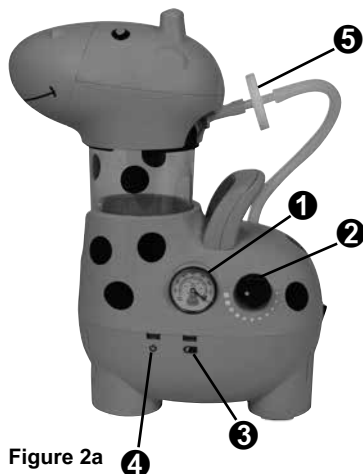
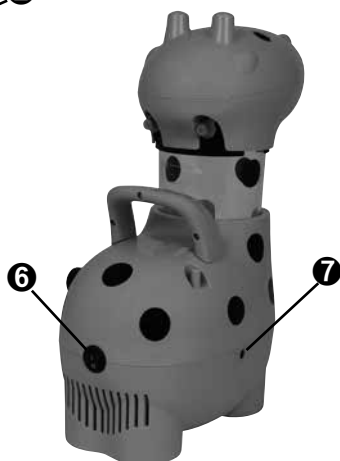
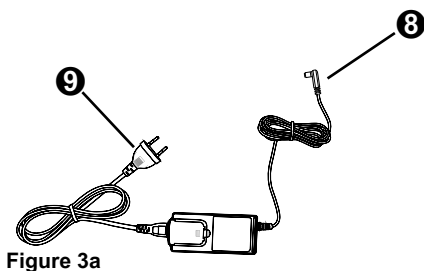
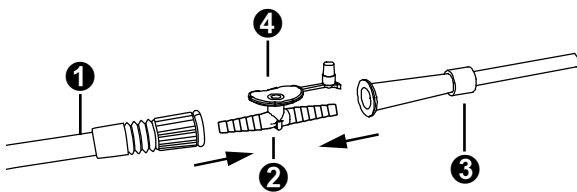

Figure 2a
Figure 2b
Figure 3a
Figure 5
- Switch the device on with the aid of the ON/OFF button (Figure 2b, ❻). If the operating status indicator (Figure 2a, ❹) lights up in green, the device is ready for operation. If the operating status indicator (Figure 2a, ❹) lights up in yellow, the rechargeable battery must be charged. (see Section 3.4).
The battery is charged via the 12 V low-voltage connection of the device. While charging is in progress, the battery capacity status indicator (Figure 2a, ❸) flashes green. As soon as the battery has been fully charged, the battery capacity status indicator (Figure 2a, ❸) lights in green. The device can be charged or operated with either the power supply (Figure 3a) or the car connection cable (Figure 3b).
Connect the low voltage cable of the power supply (Figure 3a, ❽) to the low voltage connection of the device (Figure 2b, ❷). Plug the mains plug of the power supply (Figure 3a, ❾) into the wall socket.
Connect the low voltage connection of the device (Figure 2b, ❷) to the cigarette lighter socket of the car, using the special car cable (Figure 3b).
- Control the suctioning process by means of the auxiliary air opening (Figure 5, ④) on the Fingertip.
- Connect the suction catheter (Figure 5, ③) to the suction tube (Figure 5, ①) with the aid of the Fingertip (Figure 5, ②).
- Set your desired vacuum by keeping the auxiliary air opening of the Fingertip (Figure 5, ④) closed and allowing the vacuum to build up. Then turn up the vacuum control (Figure 2a, ②) until the vacuum gauge indicates the desired vacuum.
- Choose a suction catheter (Figure 5, ③) with the correct size or a suctioning set, which can be purchased via specialist dealers.